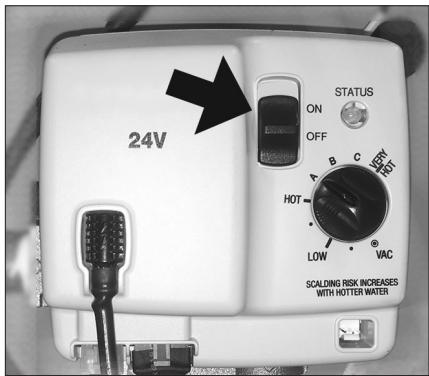

Figure 44 - Move switch to OFF position.
- Move the ON/OFF switch on the gas control valve/thermostat to the "OFF" position to turn off the water heater (see Figure 44).